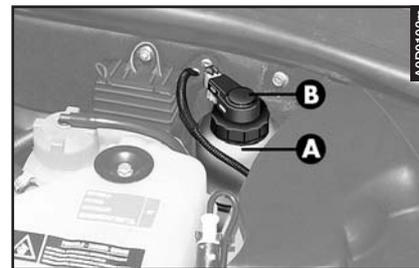

fig. 18
**CHECKING AND TOPPING UP THE BRAKE AND CLUTCH FLUID (fig. 18)**